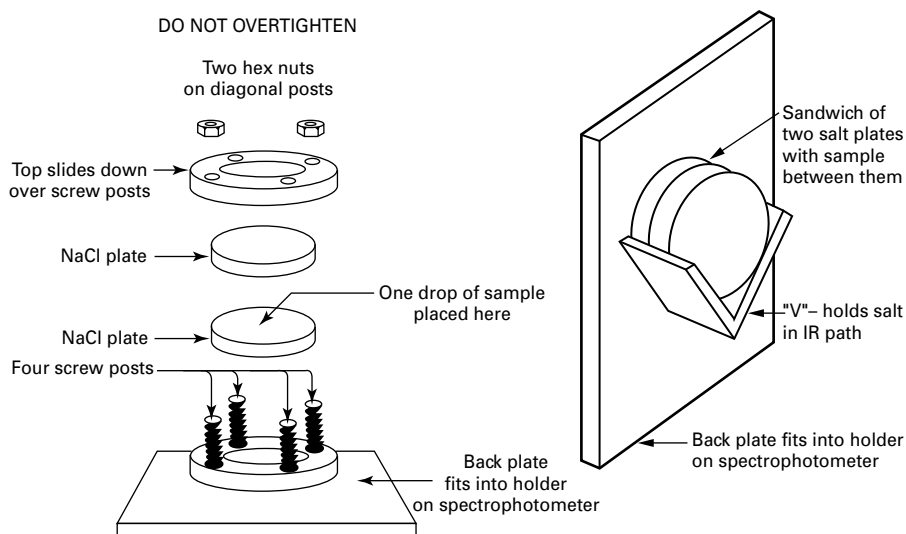

FIGURE 32.11 IR salt plates and holders.
2. Put some of the *dry* sample (1–2 drops) on one plate, then cover it with another plate (Fig. 32.11). The sample should spread out to cover the entire plate. You *don't have to press*. If it doesn't cover well, try turning the top plate to spread the sample, or add more sample.